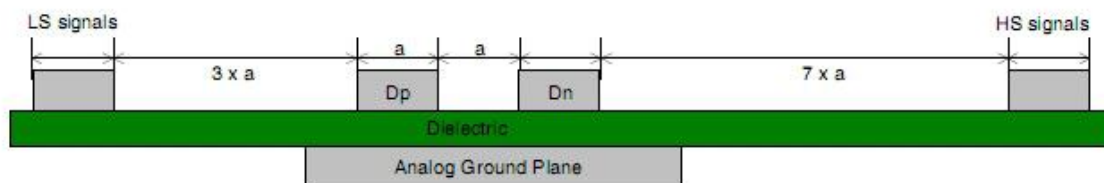

Figure 4-23 USB Layout
- The USB traces at least need to be maintained clearance of $3W$ with other signals. Shown as Figure 4-23.